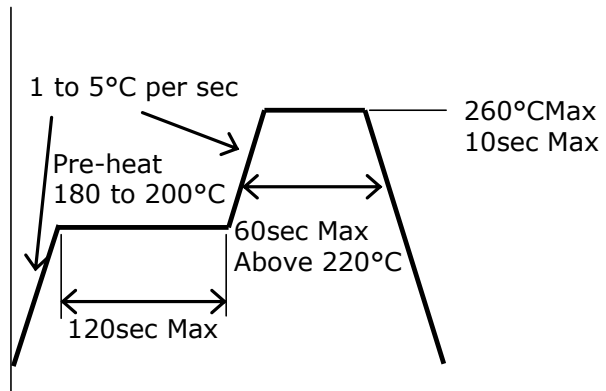

Figure 11. Recommended Reflow Soldering Condition (Lead-free Solder)
- Using the recommended reflow soldering conditions (See Figure 11 to the left) as a reference, modify if necessary, the recommended reflow conditions specified by the manufacturer of the solder paste being used.